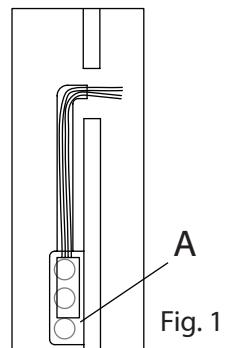

Fig. 1
2. The LED driver (A) must be installed in a remote and accessible location near the fixture in accordance with local electrical code (Fig. 1).
- c. Connect the LED driver's positive (+) output wire to the necessary length of red wire (not included) to reach the fixture (B) location.
3. Drill a small 1/4" hole (C) in the wall behind the fixture (B) and pull the low voltage wires through the wall.
4. Using the fixture (B) as a template, install mounting Allen screws (D) with the provided Allen key (E) and anchors (F). Do not tighten screws completely.
5. Pull the LED Driver's (A) positive (+) and negative (-) wires and route through the wire slot (G) on fixture (B).
6. Hang fixture (B) on the hooks (H), secure fixture by tightening mounting Allen screws (D) using the provided Allen Key (E).